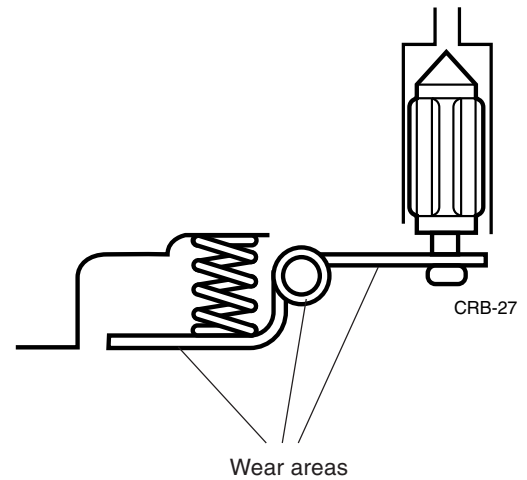

Figure 3.15 Inspect the metering lever for wear.
- Inspect the metering lever for signs of wear at the forks, hinge-pin, or from contact with the diaphragm (Figure 3.15).